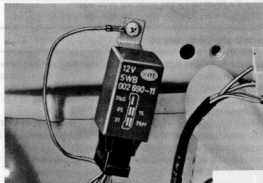

Fig. 10.36. Windscreen wiper relay — typical (Sec. 41)
- 16 The relay is secured to the front wheelhouse panel by a single screw (Fig. 10.36). The unit cannot be repaired and if faulty must be renewed.